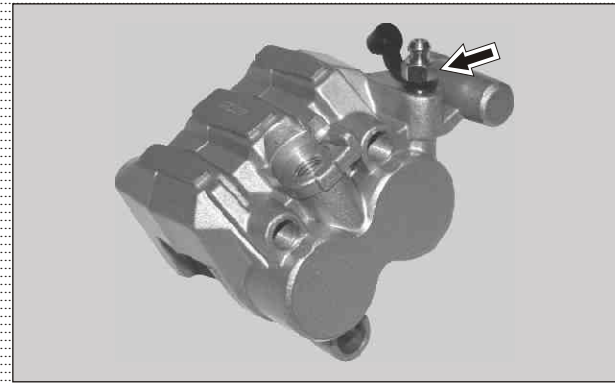

Fig. 6.23
- Unplug the cap bleeder and Remove bleeder screw. (Fig. 6.23)